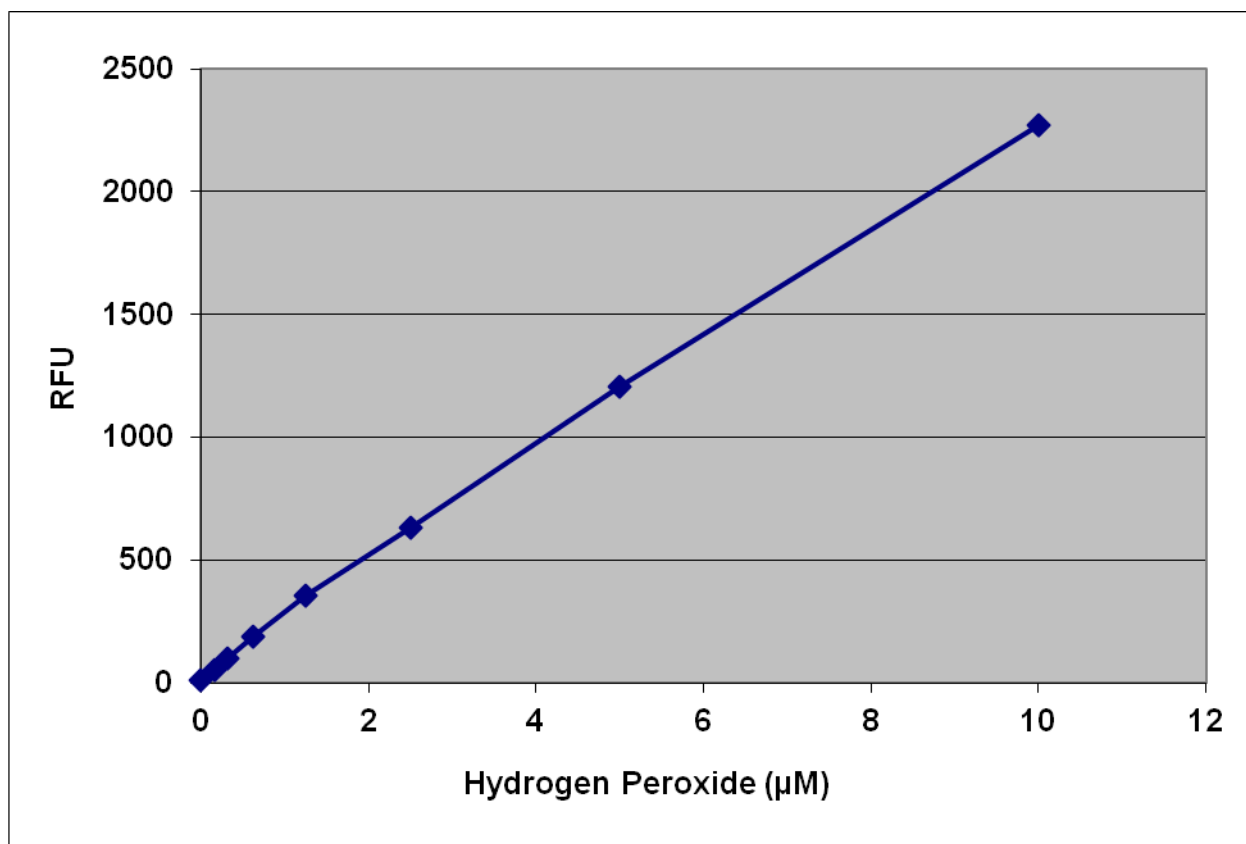

Figure 1. H_2O_2 Standard Curve.
2. Plot the corrected fluorescence for the H₂O₂ standards against the final concentration of the hydrogen peroxide standards from Table 2 to determine the best slope (µM⁻¹). See Figure 1 for an example standard curve.